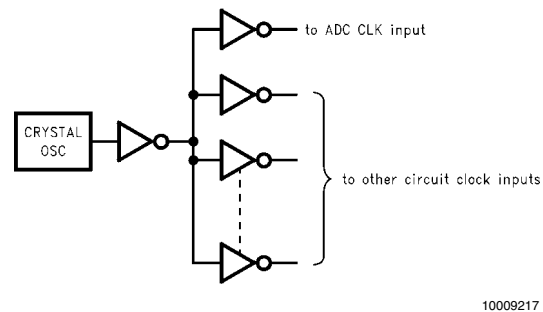

FIGURE 6. Isolating the ADC clock from Digital Circuitry.
a.c. performance, isolating the ADC clock from any digital circuitry should be done with adequate buffers, as with a clock tree. See *Figure 6*.